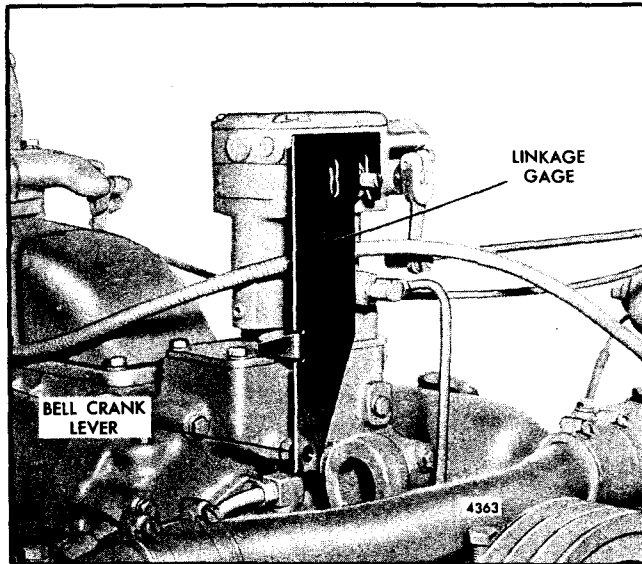

Fig. 4 - Linkage Gage in Position
13. Remove the bolt from the recessed hole in the drive housing and install linkage gage J 21304 (Fig. 4).